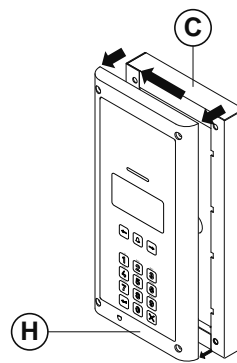

Fig. 42
6. Pull back the module support frame **(H)** from the surface box **(C)** while moving it slightly to the left, following the guide arrows, as shown in **Fig.42**;